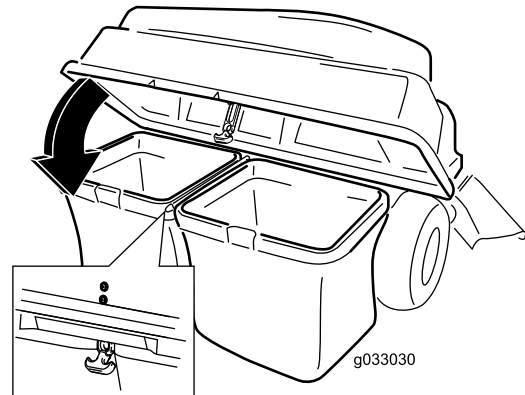

Figure 23
5. Lower the bagger top onto the bags (Figure 23).